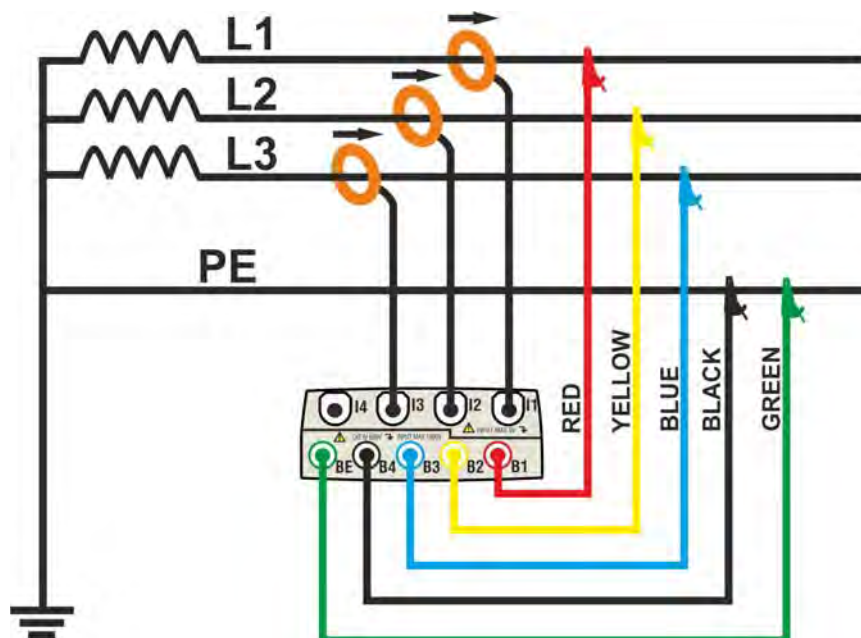

Fig. 135: Meter connection in a three phase 3WIRE system – ENG_UK type
2. Connect voltage test leads on Phases L1, L2, L3, and Ground cables respecting the colours as shown in Fig. 135. **Verify the result “123” at display relative to a correct phase sequence indication** (see § 5.2.1) and perform the corrections if necessary.
3. Connect the transducer current clamps on Phase L1, L2, L3 cables as shown in Fig. 135 respecting the clamp's arrow direction indicating the current standard sequence from generator to load. **On Real Time Values' section screens always verify the positive value of Active Power and the power factor relative to load which should be normally inductive** before starting a recording. Reverse the clamp by 180 degrees on cables in case of negative readings.